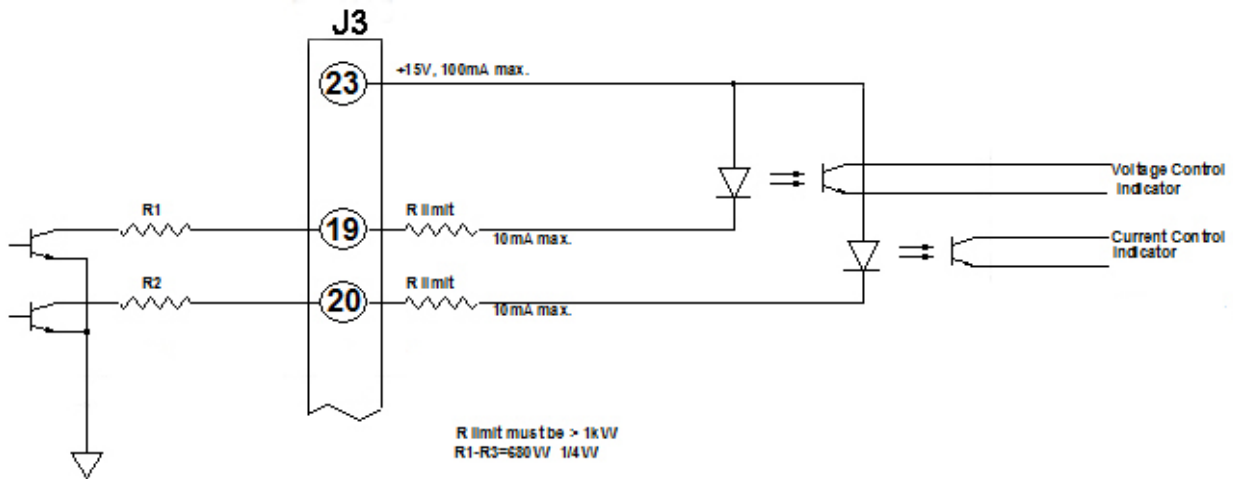

Figure 3.8 -- Remote Mode Indicators Interface
- **REMOTE MODE INDICATORS:** Signals are provided for remote indication of the control mode status: voltage control or current control. See Figure 3.8 on page 17 for the recommended interface.